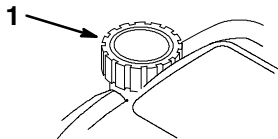

Figure 6
1. Clean around the fuel tank cap (Fig. 6).